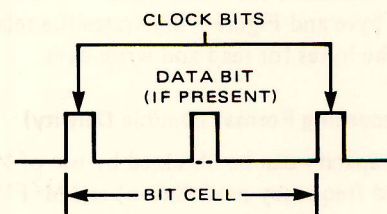

FIGURE 2 DATA PATTERN
2.1 The format of the data recorded on the Diskette is totally a function of the host system. Data is recorded on the diskette using frequency modulation as the recording mode, i.e., each data bit recorded on the diskette has an associated clock bit recorded with it, this is referred to as FM encoding. Data written on and read back from the diskette takes the form as shown in Figure 2. The binary data pattern shown represents a 101.